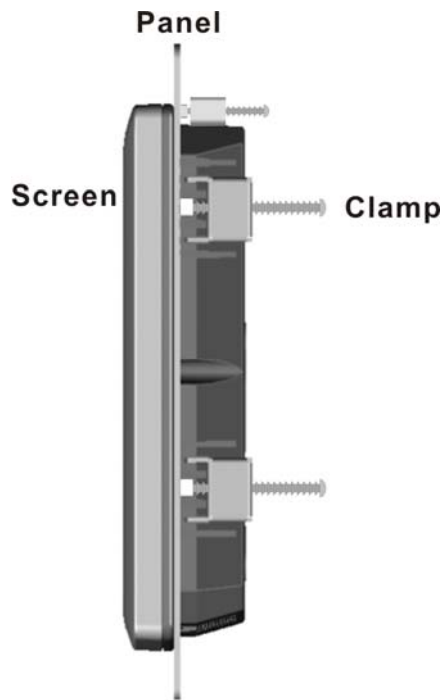

Figure 2-14: Tighten the Panel Mounting Clamp Screws
Step 5: Tighten the screws that pass through the panel mounting clamps until the plastic caps at the front of all the screws are firmly secured to the panel (**Figure 2-14**).